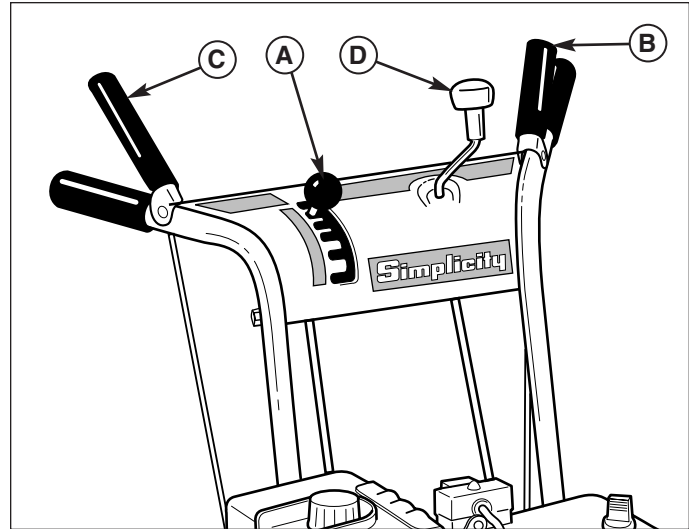

Figure 7. Operator's Control Position
3. Fully press and hold the Auger Control (C, Figure 7) on the right-hand grip to begin auger rotation. To disengage the auger, completely release the lever.
4. Fully press and hold the traction Drive Control lever (B, Figure 7) on the left-hand grip to engage the traction drive and begin moving the snowthrower. To disengage the traction drive, completely release the lever. If engaged at the same time, the drive control (B) will lock the auger control (C) in the engaged position. Releasing the drive control (B) will release the auger control (C).
5. Select forward or reverse speeds as needed using the Speed Selector (A, Figure 7). Release the Drive Control lever whenever changing drive speeds.
Use the Speed Selector (A, Figure 7) to control the drive speed of the snowthrower. There are five forward speeds and two reverse speeds.
To change speeds, first release the traction Drive Control lever (B, Figure 7), then move the Speed Selector to the desired speed setting. Fully press the traction Drive Control lever to resume operation.